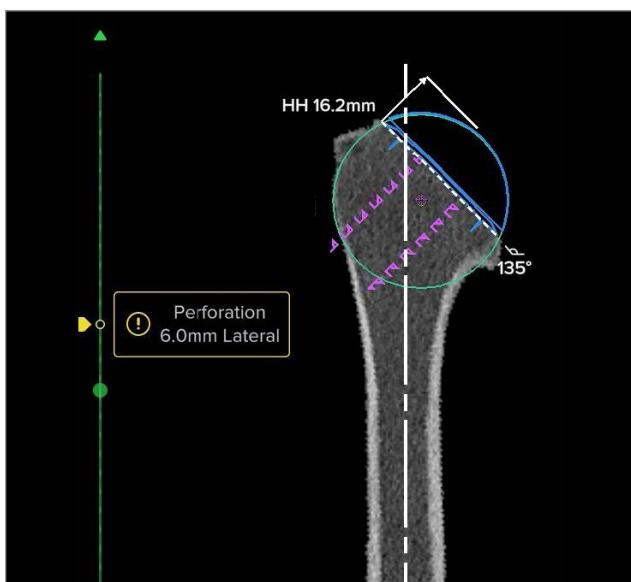

Figure 60. Eclipse™ cage screw perforation warning
- In the event that the user selects an implant or positions the implant so that it violates the humeral cortex a perforation warning will appear in the left pane of the “Humeral Viewer” page. A yellow flag will appear along the green slider bar to the left of the 2D image referencing the CT slice that shows the perforation (Figures 60 and 62).